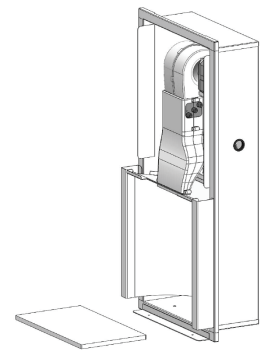

Fig. 3
4. Slide absorbent ceramic surface forward and out of cabinet and set aside. (See Fig. 3)